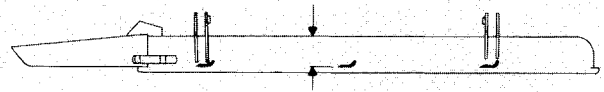

Figure 13
2. Rotate blade until the ends face forward and backward (Fig. 13). Measure from inside of cutting unit to cutting edge at front of blade (Fig. 13), and remember this dimension.